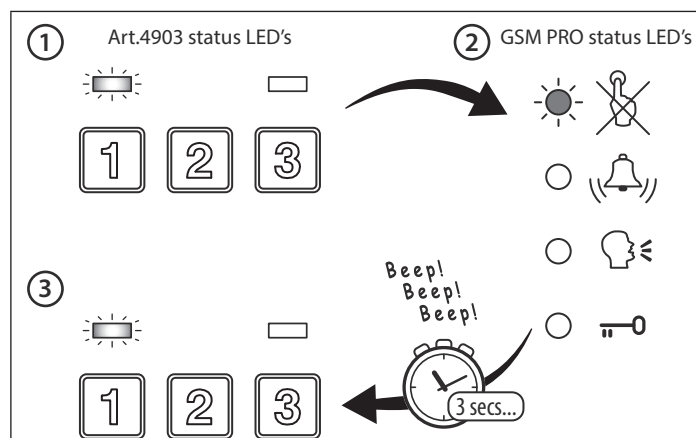

Fig. 104
2. The green data LED (**Fig.104, ①**) on the **Art.4903** and the red busy LED (**Fig.104, ②**) on the GSM will flash one after the other;
3. The green data LED (**Fig.104, ③**) will then flash once and the appropriate relay (**RLY1** or **RLY2** depending on setup) will activate and keypad will emit a series of 1 second interval beeps for the duration of the programmed relay time.